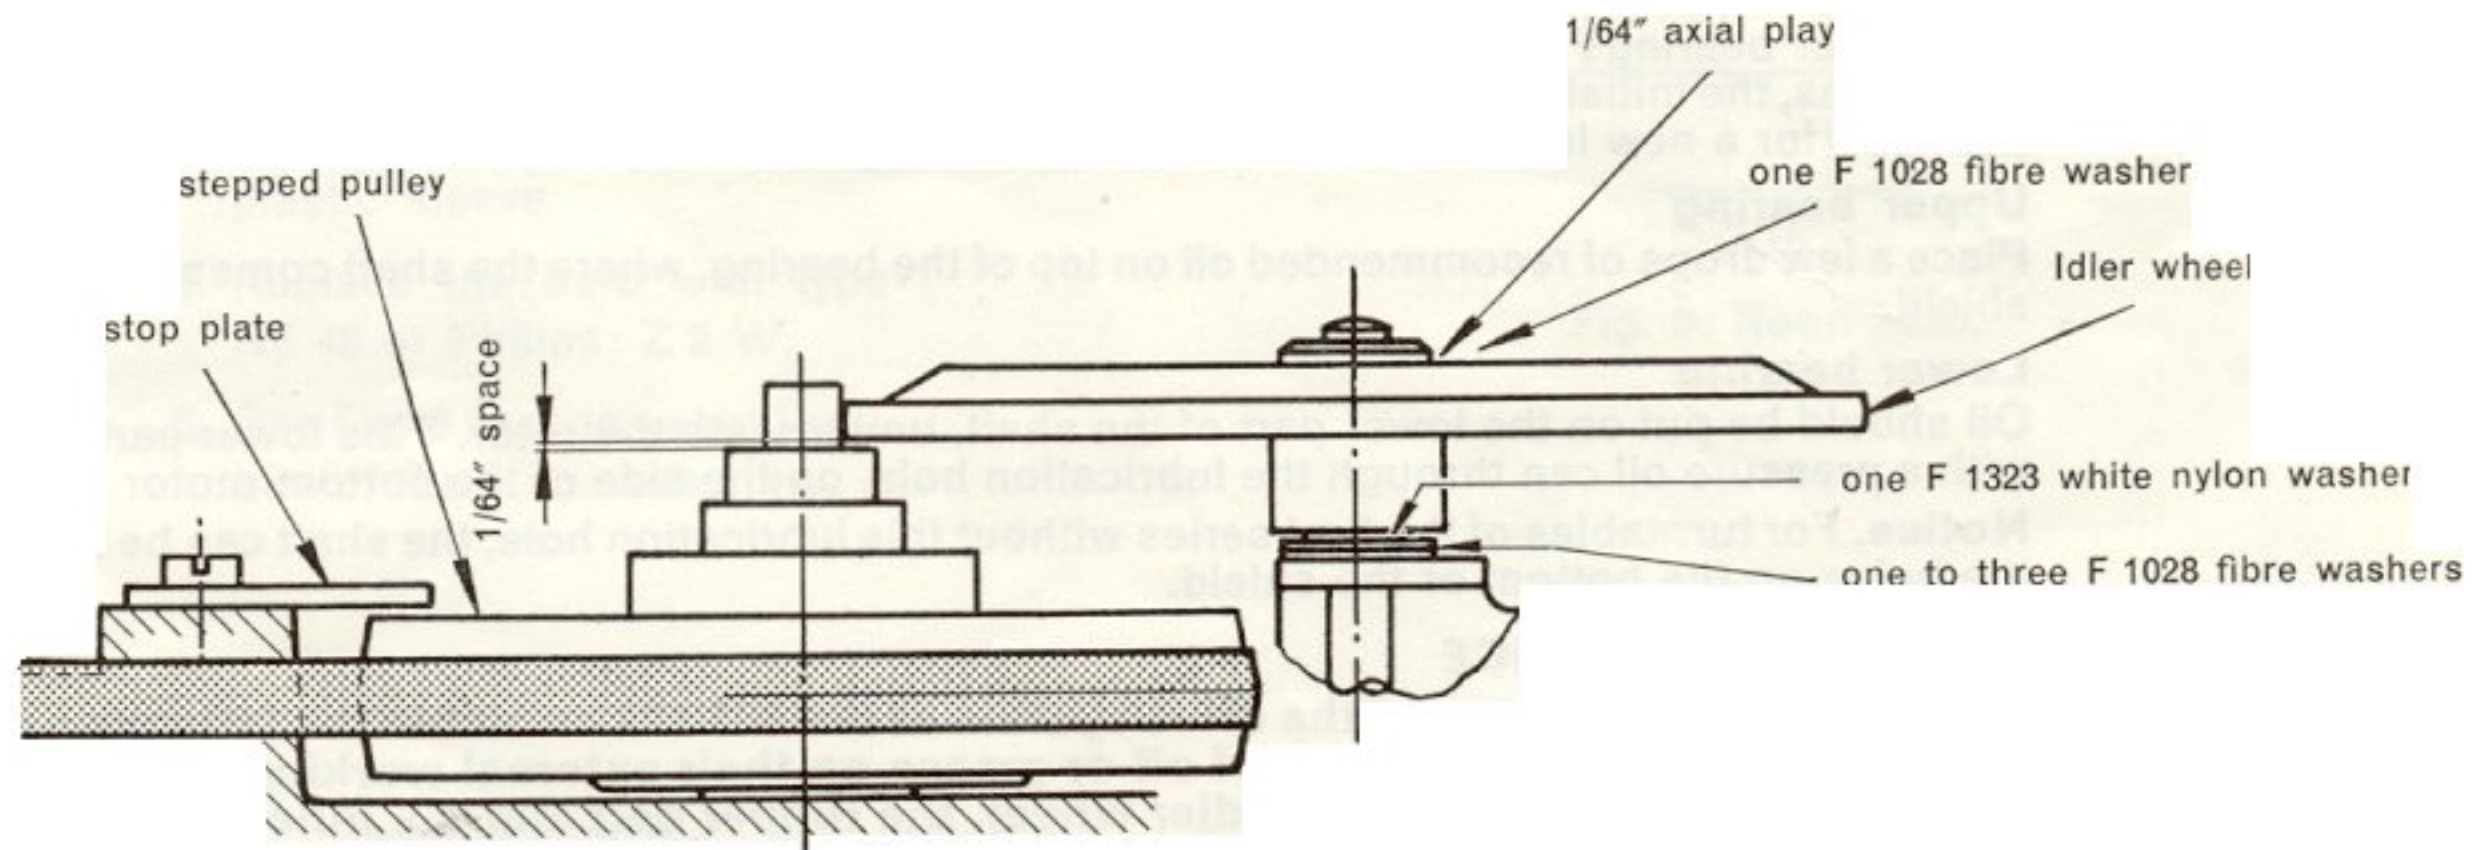

Fig. 8: Stepped pulley and idler wheel.
5. See Fig. 8 for proper mounting of the idler wheel.
2. Turn the stepped pulley upside down, clean the inside of the bearing, by means of a small rolled piece of cloth and oil with industrial castor oil. See Fig. 8 for proper mounting of the idler wheel.
The specially developed synthetic rubber belt running on very large diameter pulleys will not, under normal use, be subject to wear or deformation. If a replacement is necessary first remove the stop plate of the stepped pulley (see Fig. 8) to give free access to the belt and **clean the two pulleys with denatured alcohol.**